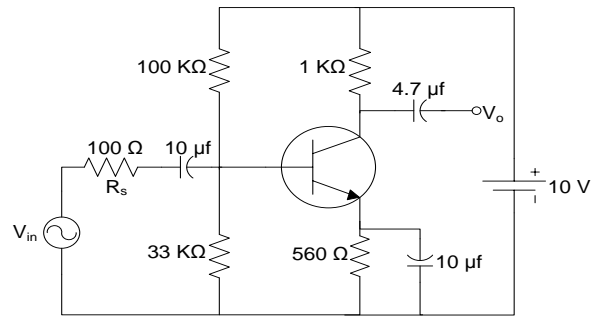

Figure 7.1: Experimental Circuit.
1. Arrange the circuit shown in figure 7.1 and record R_s .